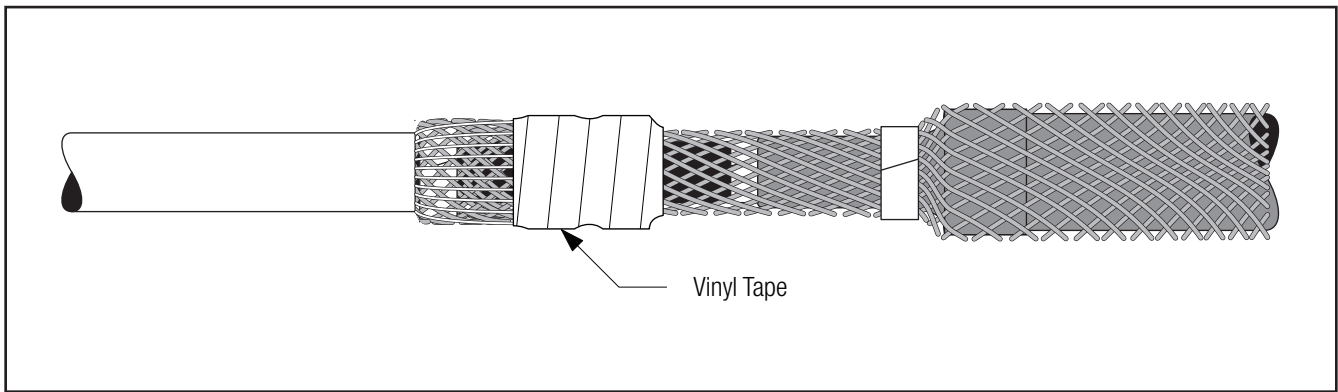

Figure 27
6.3.3 Wrap two layers of stretched vinyl tape over springs (Figure 27).